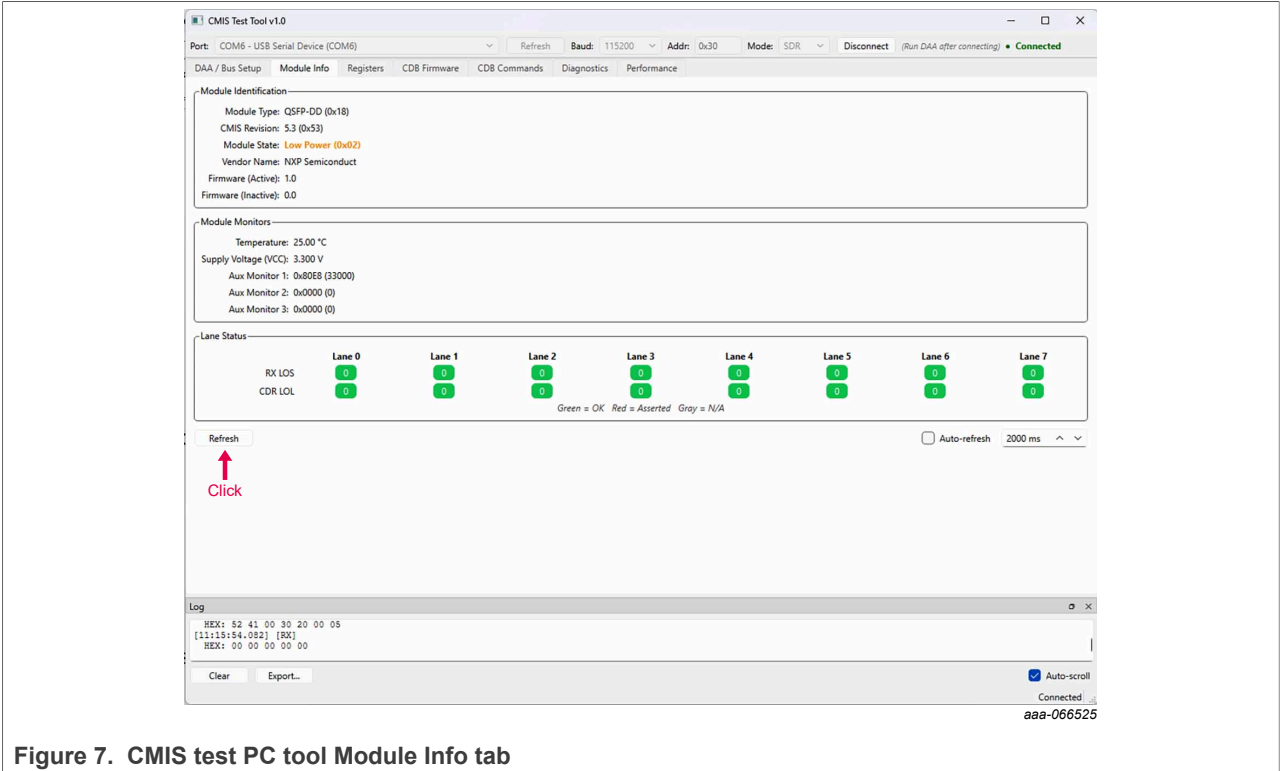

Figure 7. CMIS test PC tool Module Info tab
5. Retrieve module information by opening the **Module Info** tab. Then, click **Refresh**, which reads and displays the MCX N947 optical module CMIS protocol over I3C demo information, as shown in Figure 7.